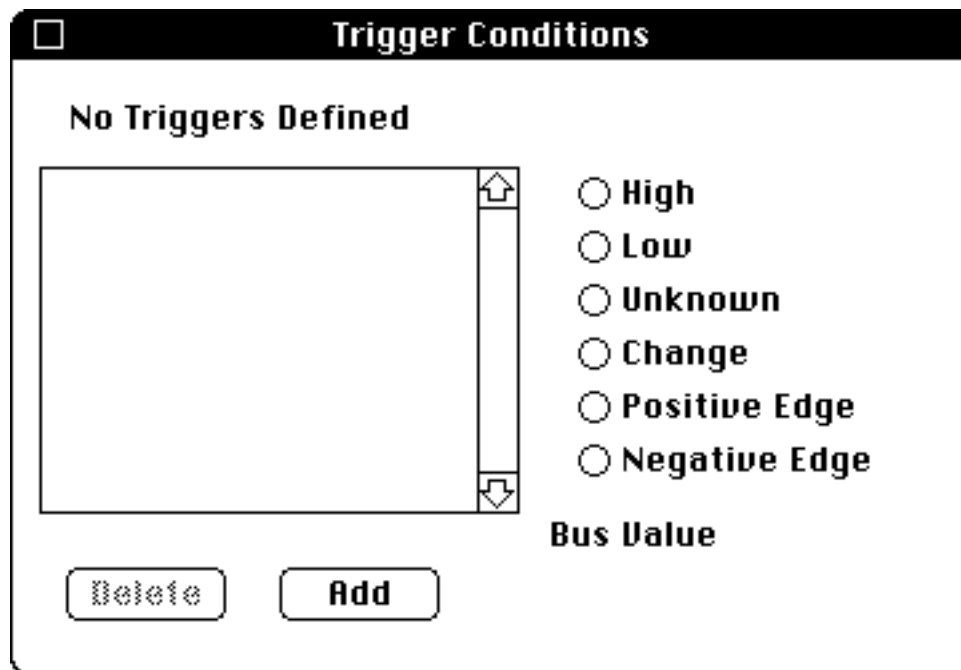

Figure 8-11 Trigger Condition Dialog Box
1. Select the **Misc->Set Trigger** command. A dialog box opens as shown in Figure 8-11.